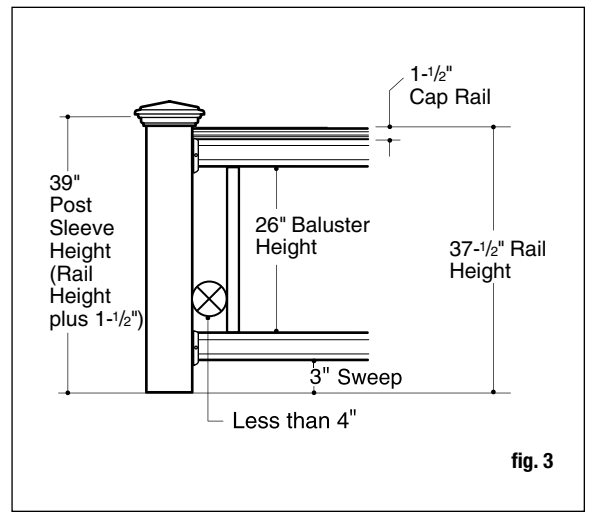

fig. 3
**Step 5** Trim 4x4 post sleeves to length. Post sleeves should be a minimum of 1-1/2" longer than the overall railing height. Allow an additional 1-1/2" in your calculation if installing the optional cap rail (fig. 3, following page). Example: For a 36" high railing, trim post sleeve to a minimum of 37-1/2" (39" with cap rail). Post sleeve can be left longer if desired.
**Step 6** Measure the distance between installed post sleeves to determine the length of the top and bottom rails (fig. 1). The distance between the post and first baluster should be less than 4" and equal on both ends (fig. 3, following page). Remove an additional 1/4" on both ends (1/2" overall) for the bracket to fit between the rail and post. Trim the top and bottom rails to length.
**Step 8** Position the bottom rail between posts and center. Note: Check building code requirements for maximum spacing between deck surface and bottom of rail (sweep). Spacing of 3" is recommended, but can be more or less if codes allow (fig. 3). Mark the location of the bracket on both posts. Remove rail. Mark the screw locations and pre-drill through the post sleeve only, using a 1/4" drill bit. Attach each bracket to the post with two 2" screws.
**Step 10** Figure 3 illustrates how a 36"-high railing might be sized. Note: Use a fixture to ensure a consistent length (+/- 1/16").
**Step 3** Complete stair tread installation prior to installing post sleeves. Trim 4x4 post sleeves to length. If using post caps, post sleeves should be a minimum of 1-1/2" longer than the overall railing height (fig. 3). Allow an additional 1-1/2" in your calculation if installing the optional cap rail. Example: For a 36" high railing, trim post sleeve to a minimum of 37-1/2" (39" with cap rail plus the height of the riser. If your railing height is 36", add 1-1/2" plus 7" for riser). Post sleeve can be left longer if desired.